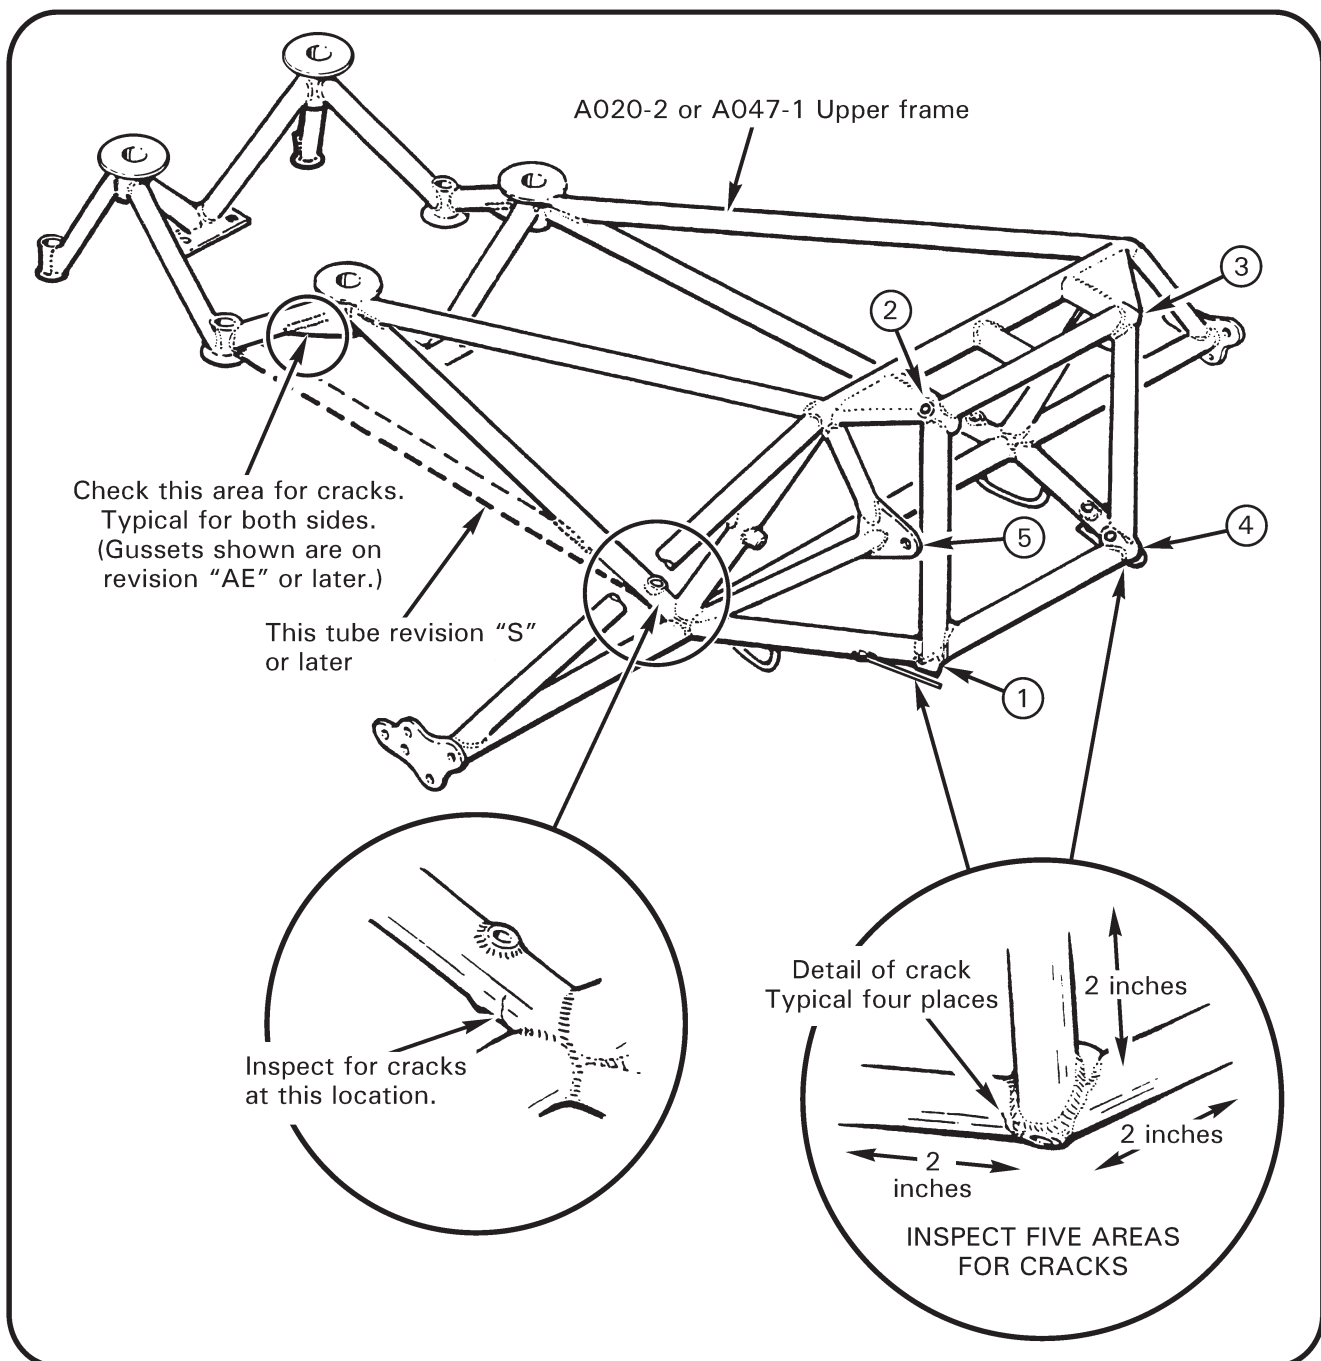

FIGURE 2-12 UPPER FRAME CRACK INSPECTION
- b. See Figure 2-12. Using an approved paint stripper (ref. § 23-71), remove paint from and within 2 inches of tailcone attach points on upper frame.
4. See Figure 2-12. Using an approved paint stripper (ref. § 23-71), remove paint from and within 2 inches of tailcone attach points on upper frame. Fluorescent penetrant inspect (ref. § 23-42) upper steel tube frame at tailcone attach points.